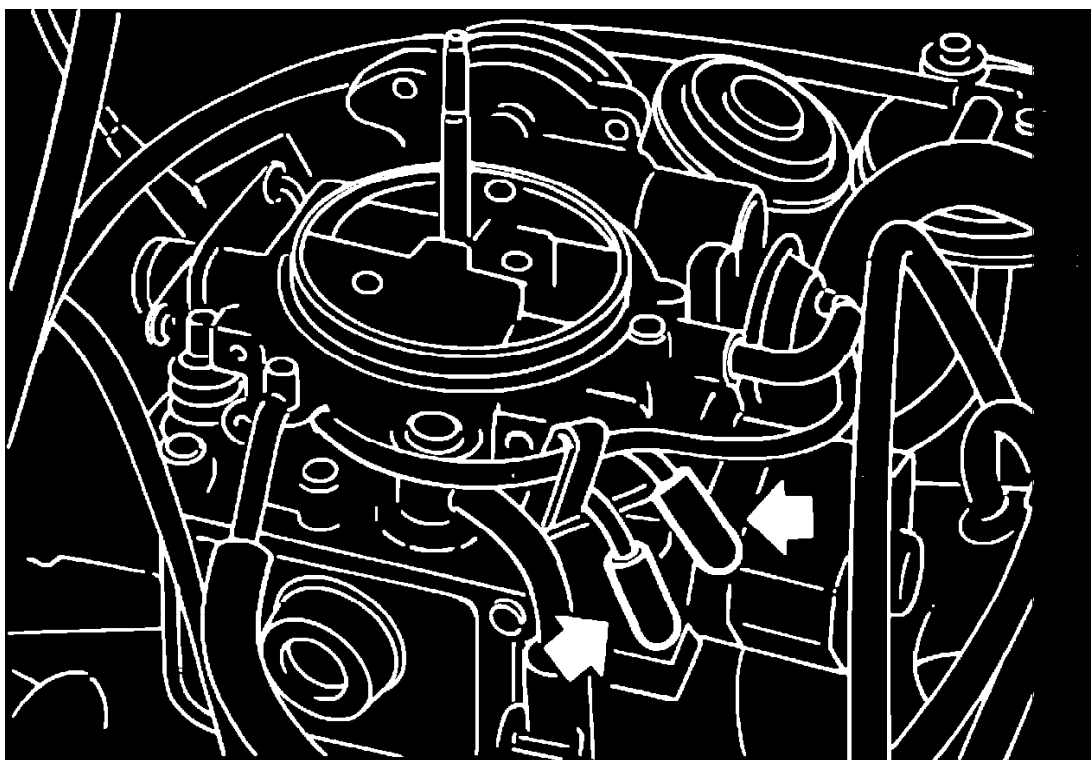

Fig. 42 Removing rubber caps from carburetor altitude compensation lines
4. Remove rubber caps from altitude compensation lines on carburetor, **Fig. 42**, and connect lines to altitude solenoid.